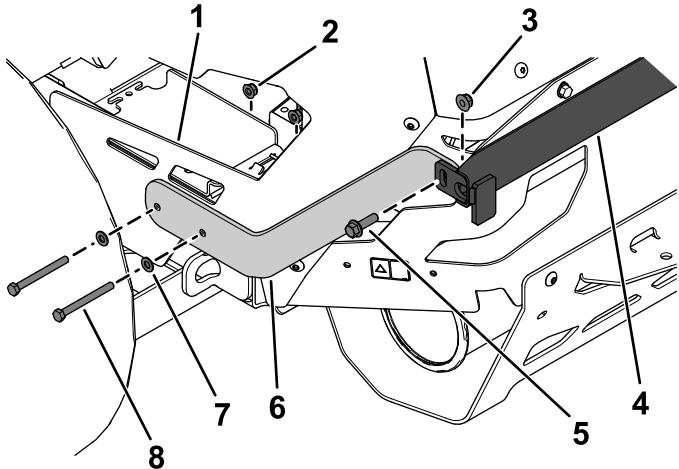

Figure 13
3. Loosely secure the left, upper bracket to the left, rear guard and upper support using 2 hex-head bolts (5/16 x 3-1/4 inches), 2 plain washers, 2 flange nuts (5/16 inch), 1 flange-head bolt (3/8 x 1-1/4 inches), and 1 locknut (3/8 inch) as shown in Figure 13.